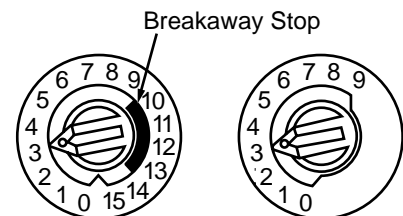

Figure 2.
2. Set the desired address on the sensor address switches, see Figure 2.